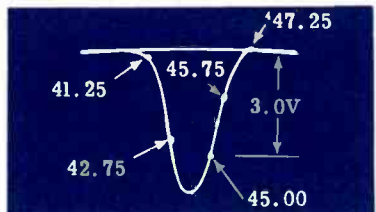

Fig. 5 Overall IF Response
8. Adjust the first IF bottom core (44 Mc), second IF (42.75 Mc), third IF (45 Mc), and converter plate coil to obtain a response similar to Fig. 5.